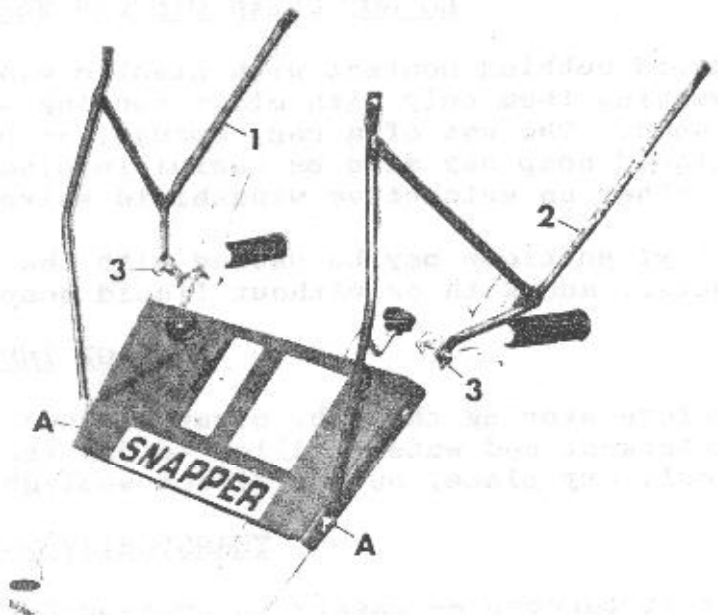

FIGURE 2
STEP 2; SEE FIGURE 2:
- A. Loosen two bolts from handle bars (REFERENCE A). Slip the right ATTACHING BRACKET (1) under the bolt head. Now place a "U" CLAMP (3) open end up on the handle bar and insert a 1/4" x 2" bolt through the clamp and the other end of the bracket. Add a nut and tighten both bolts.
- B. Repeat above step 1A on the left side using left ATTACHING BRACKET (2).